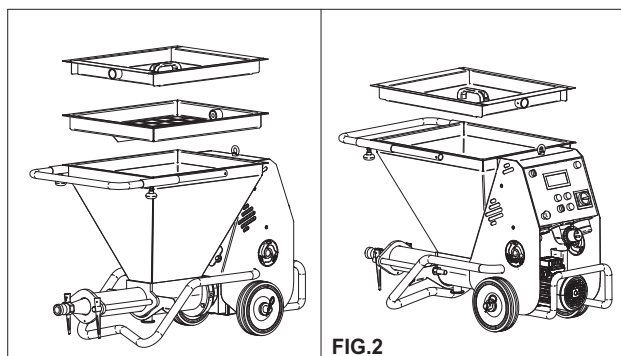

FIG.2
- COPERCHIO TRAMOGGIA (vedi fig.2) IMER cod.1107513